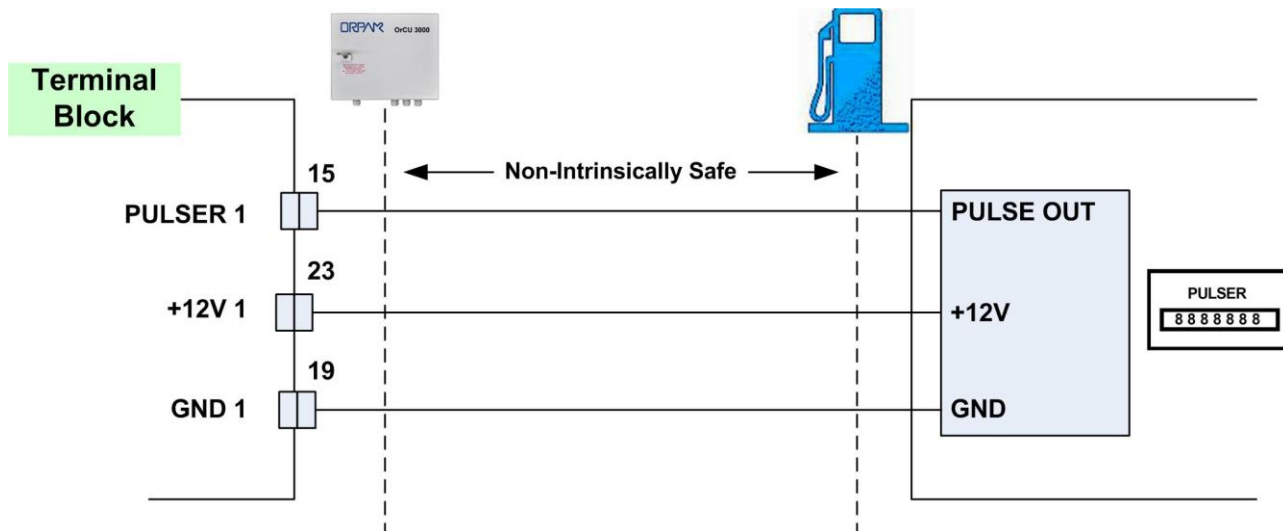

Figure 3-16 Terminal Block and 3-Wire Pulser - Wiring Connections
- Figure 3-16 shows a schematic diagram of the connections between the Terminal Block and a three-wire Pulser.